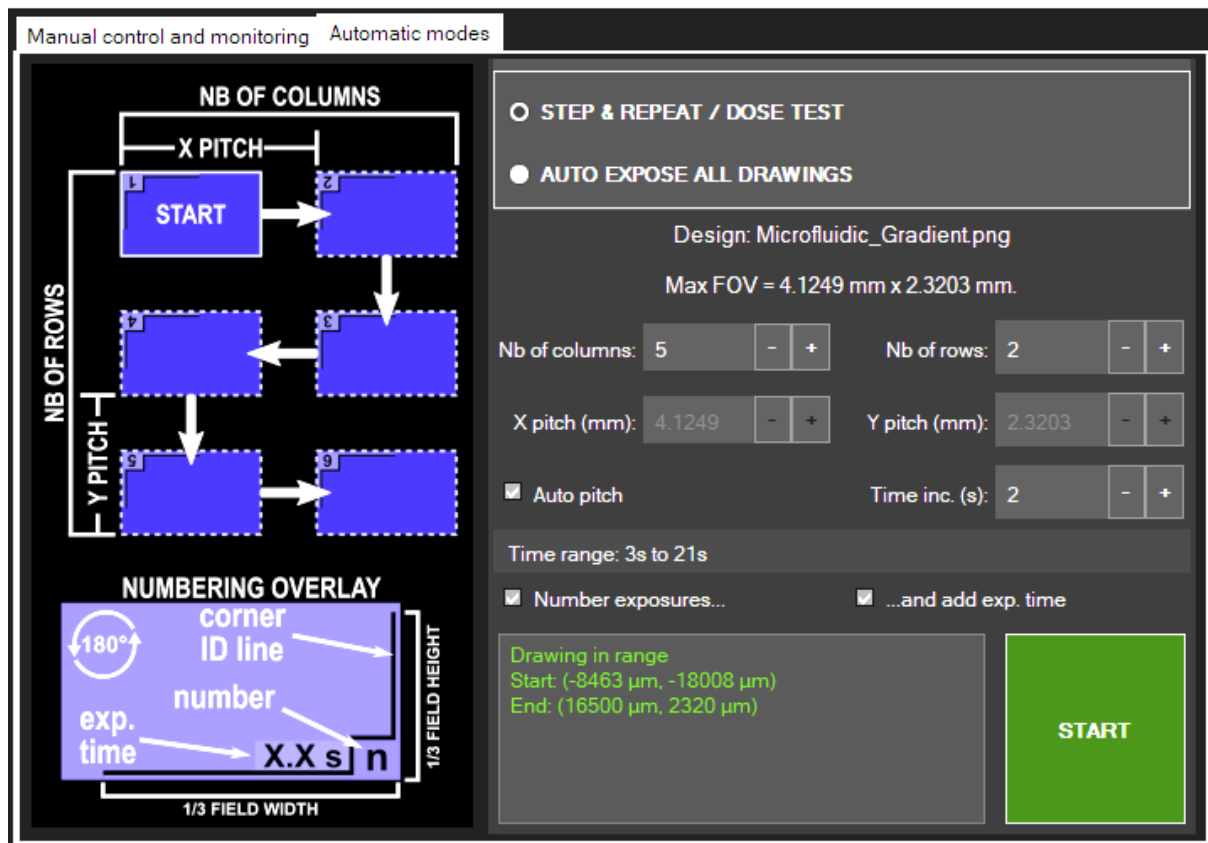

Figure 36 – Automatic mode tab in XY stage window
- Go to the **Expose** menu and click on **Dose test**. A new window opens as shown in Figure 36. The **"STEP & REPEAT / DOSE TEST"** mode should be selected. The **"Design"** and **"Max FOV"** fields respectively indicate which design will be exposed and its dimensions.
- **Time increment** (in s). If it is set to 0, all elements of the drawing will be exposed using the Initial time. To perform a dose test, enter a positive value. Each n-th element (from 1 to  $N = \text{"Nb of columns"} \times \text{"Nb of rows"}$ ) will be exposed with the time  $t_n = t_0 + (n - 1)\Delta t$  where  $t_0$  and  $\Delta t$  are respectively the initial time and the time increment. The initial time corresponds to the exposure time of the first element of the array (Start position in the schematic Figure 36). By default, the software will use the time indicated in the design list in the **PARAMETER** panel. To change the initial time, simply modify the value in the design list.